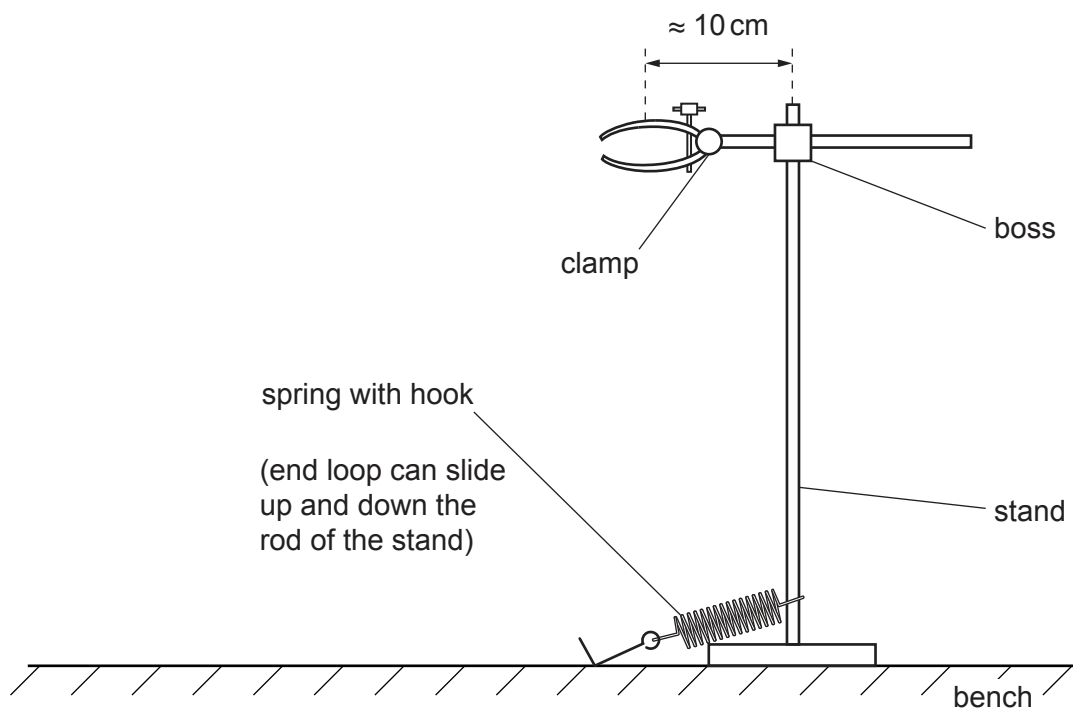

Fig. 1.4 (not to scale)
- 4 Set up one stand, boss, clamp and spring as shown in Fig. 1.4.